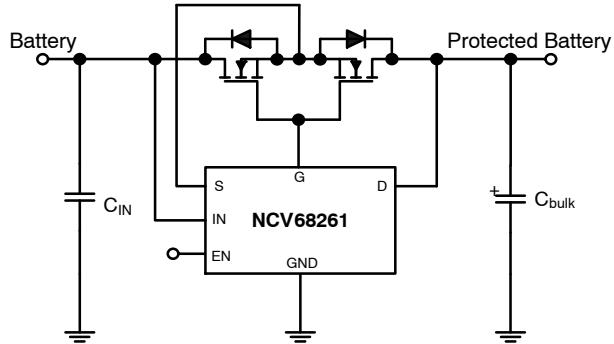

Figure 23. Ideal Diode + High Side Switch
The **Ideal Diode + High Side Switch** (HSS) application in Figure 23 combines the features of the Ideal Diode and an Ideal Switch depending on the Enable (EN) state. If the EN is high the application is in Ideal Diode mode. If the EN is
Figure 26. Application Response to $13\text{ V} + 6\text{ V}_{\text{pp}}$ Sine Wave on the Input (V_{IN}) – Ideal Diode + High Side Switch Application (see Figure 23)